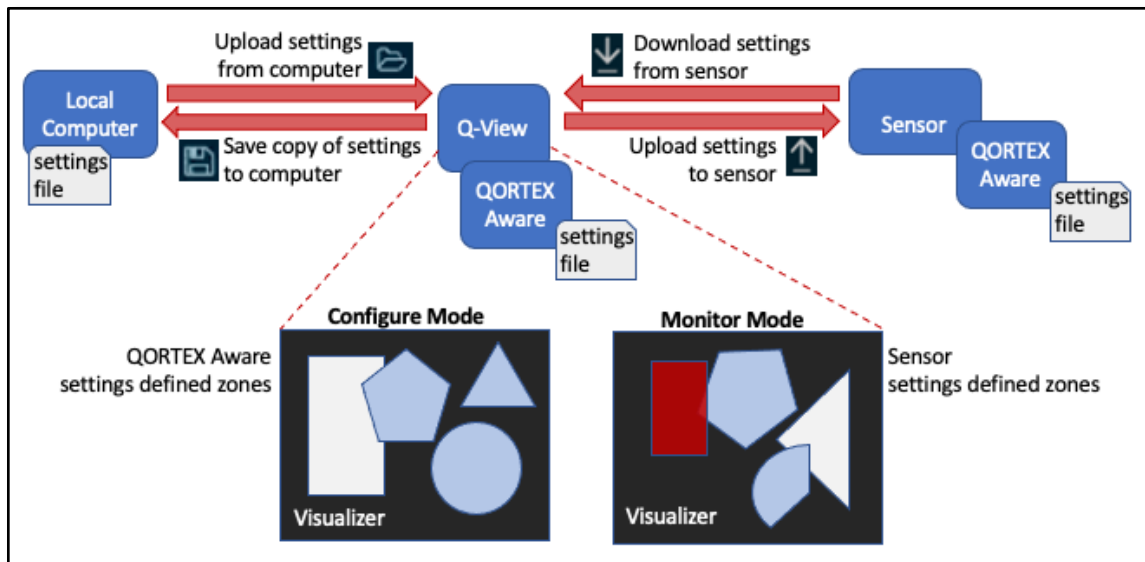

Figure 65. QORTEX Aware Modes and settings Files
4. View Sensor settings: QORTEX Aware Monitor Mode (page 106)—View sensor activity through from sensor. See Figure 65. QORTEX Aware Modes and settings Files.